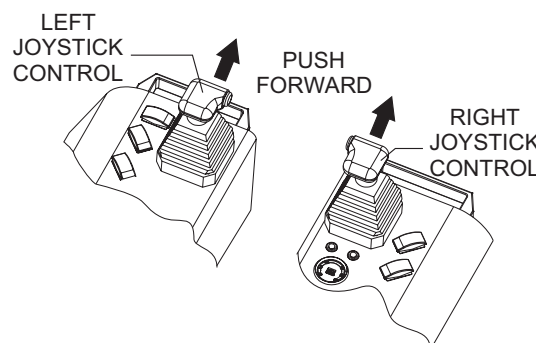

Figure 20. Joystick Control Forward Direction
2. Push both the left and right joysticks forward (Figure 20).